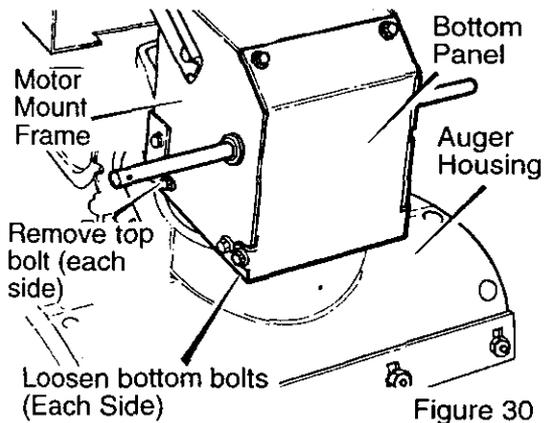

Figure 30
- Remove the **bolts** on each side of the **motor mount frame**. See Figure 30.
12. Install the **bolts** on each side of the **motor mount frame**. See Figure 30.
10. Install the bolts on each side of the motor mount frame. See Figure 30.